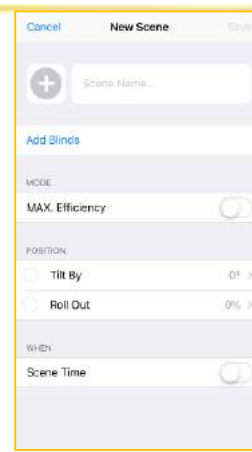

Figure 26
10.7.3. Fill in the required fields (Fig. 26):